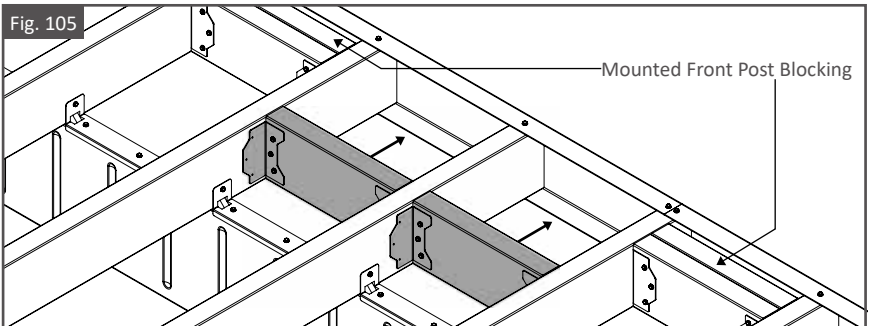

Fig. 106
5. Using Evolution Self-Drilling Screws, fasten the cut Joist assemblies onto the Infill joists. As shown in Fig. 106.